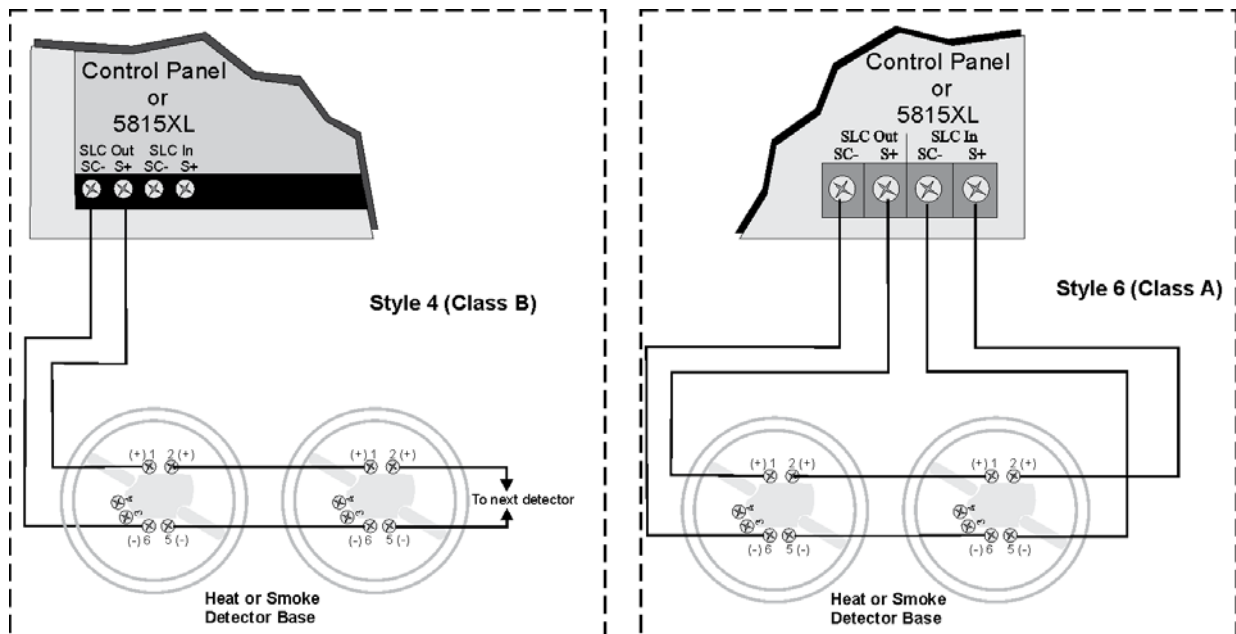

Figure 5-6 Heat or Smoke Detector Connection to the FACP
1. Wire device bases as shown in Figure 5-6.